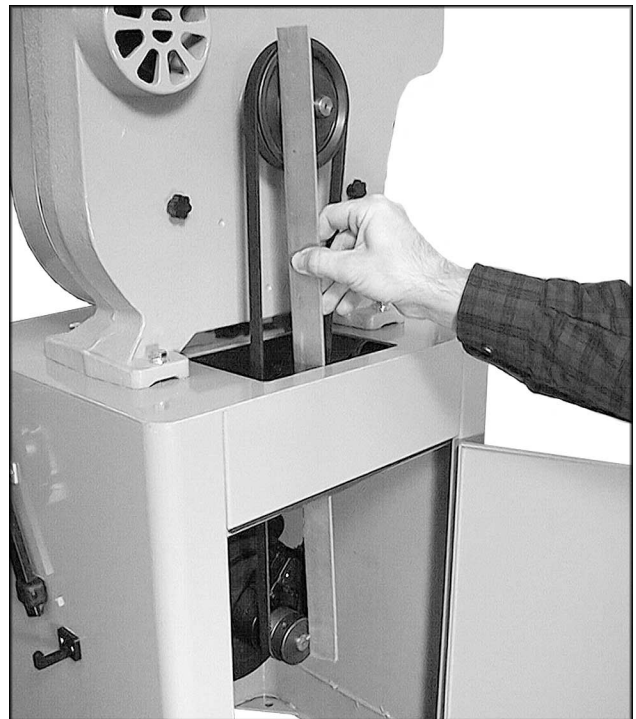
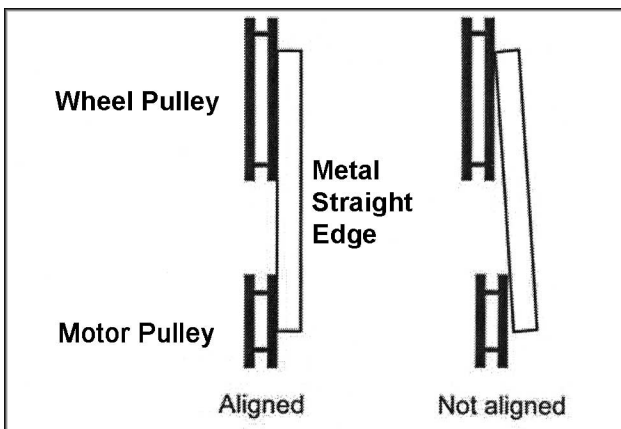

Fig. 3a
Fig. 3b
- Check the alignment of the pulleys by placing a straight edge against the flat sides of the motor and wheel pulleys (Fig. 3a). If the pulleys lie in a straight plane (Fig. 3b) they are aligned. If they do not lie in a straight plane, loosen the set screw on one of the pulleys and shift the pulley in or out until both pulleys lie in a straight plane. Tighten set screws.
- Open the lower door, and place the v-belt around the motor pulley and the wheel pulley (see Fig. 3a).